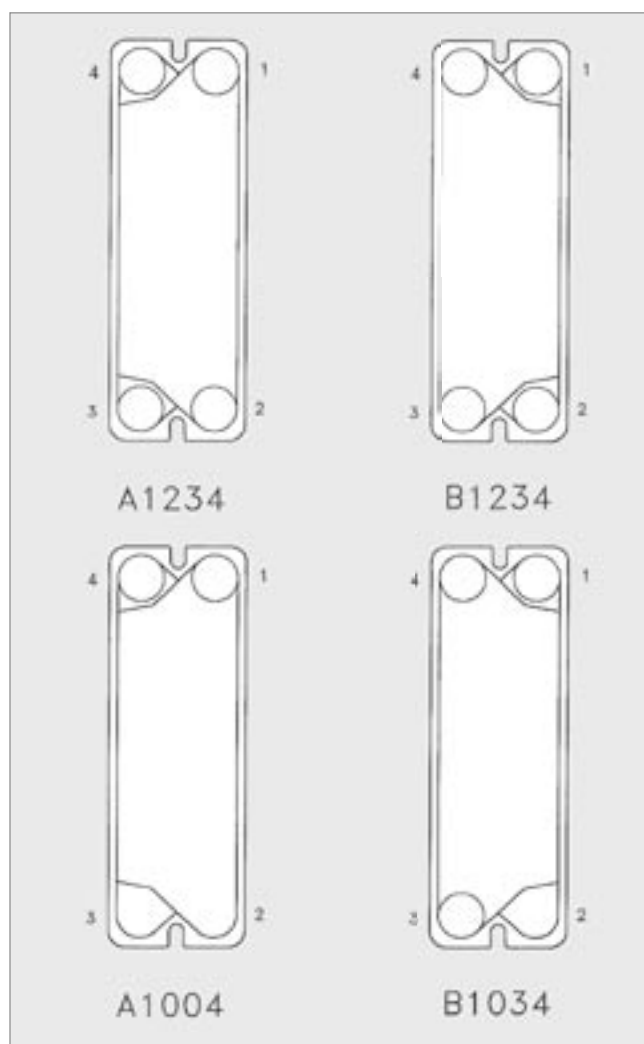

Figure 14
As shown in Figure 14, the pierced holes at the corners of the plate are designated as: 1 for upper right, 2 for lower right, 3 for lower left and 4 for upper left when facing the gasketed side of the plate. Plates 1 and 2 in Figure 14 are represented as A1234 and B1234 respectively. Plates with all four holes pierced can also be designated with a blank space or an *. Unpierced ports will be represented as a zero (0). For example, Plate 3 is represented by a A1004 since there are no holes at position 2 and 3. Table 8 shows **A and B equivalents when an “A” plate is rotated to become a “B” plate.**